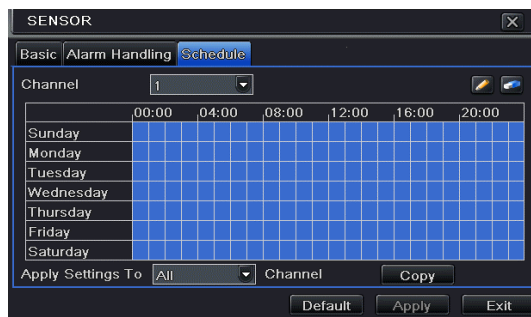

Fig 4-22 Sensor-Schedule
Step 9: Enter into Schedule tab. Refer to Fig 4-22. The setup steps for schedule for sensor based alarm are similar to normal schedule setup. You can refer to Chapter 4.4.1 Schedule for more details. This step is very important for sensor alarm. Even if you have enabled the sensor alarm for all channels and setup the trigger, you will not see the result of sensor alarm if no schedule is added.